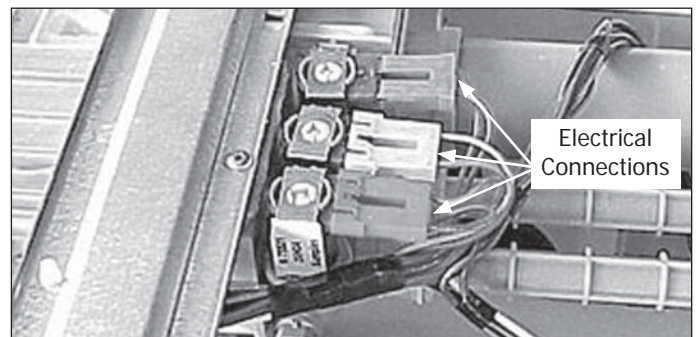

Figure 4-52.
3. Unplug the wiring harness from the valves and the temperature sensor. (See Figure 4-52 & 4-53)